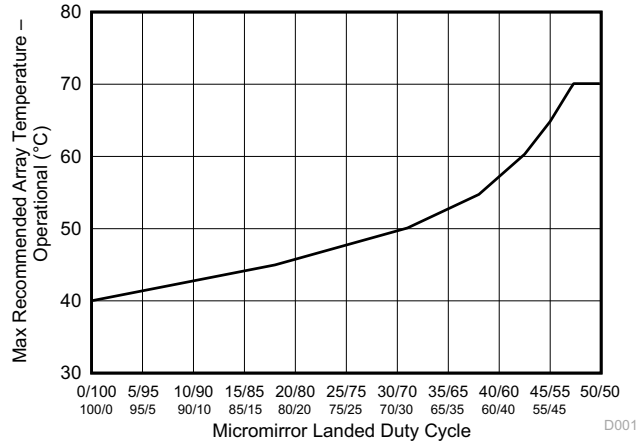

图 6-1. Maximum Recommended Array Temperature - Derating Curve
- (13) Per 图 6-1, the maximum operational array temperature should be derated based on the micromirror landed duty cycle that the DMD experiences in the end application. Refer to ¶ 7.7 for a definition of micromirror landed duty cycle.
- (14) Long-term is defined as the usable life of the device
- (15) Short-term is the total cumulative time over the useful life of the device.